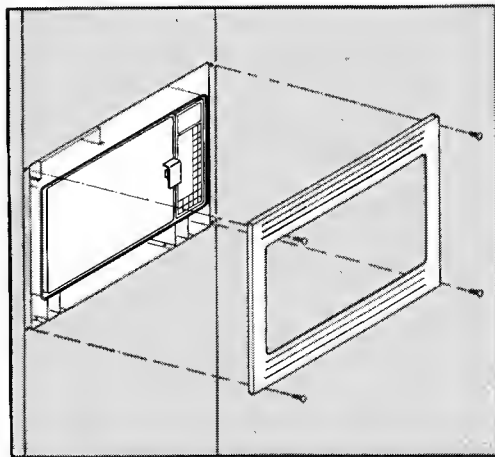

Fig. 9
4. Place the frame in position and fix it to the cabinet with four screws. Check and see if the door opens completely (Fig. 9).